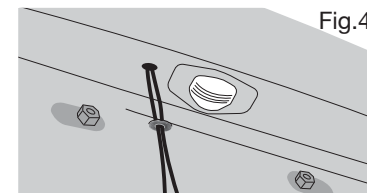
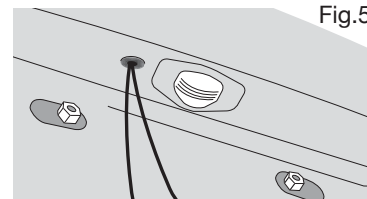

Fig.4
Fig.5
7. After you have drilled a hole, pass the power cables through the grommet, then into the vehicle through the hole you have drilled. (Fig.4) Fit the grommet into the hole.(Fig.5). You must use the grommet to prevent the metal edge of the hole from cutting the power cable.